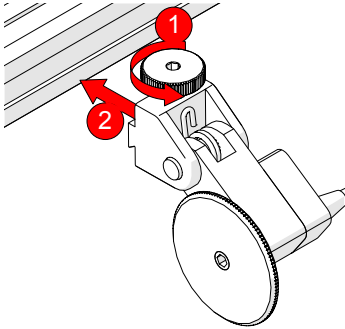

Fig. 36 - Attach to frame bar
1. Loosen the encoder's dovetail jaw and mount it to the frame bar (Fig. 36).